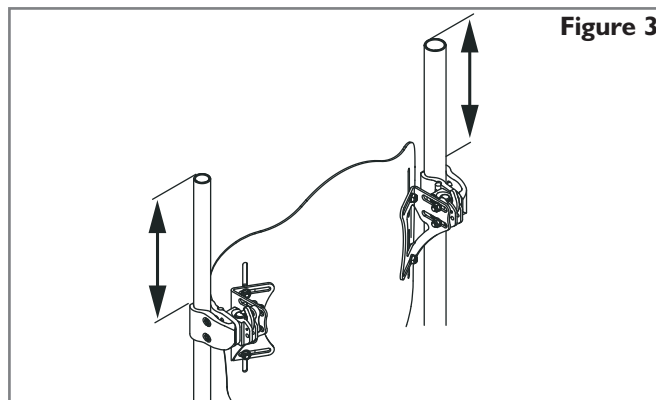
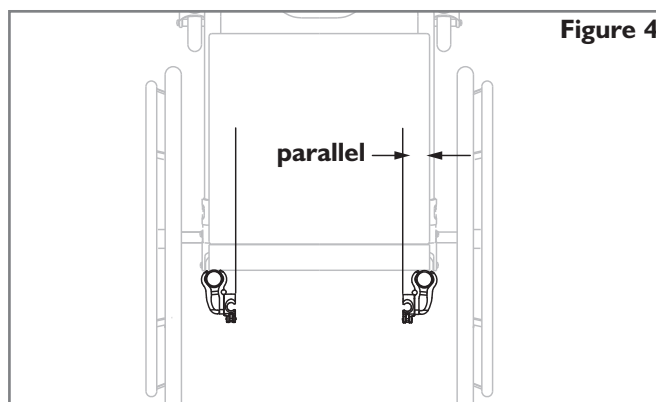

Figure 3
Figure 4
### Hardware Installation Instructions (Figs. 3, 4, 5)
2. Visually determine the desired location of the receivers on the wheelchair's back canes. The mounting hardware should be at approximately equal heights on each back post (Fig. 3) and parallel to the seat frame (Fig. 4). Higher locations on the back canes are generally better.